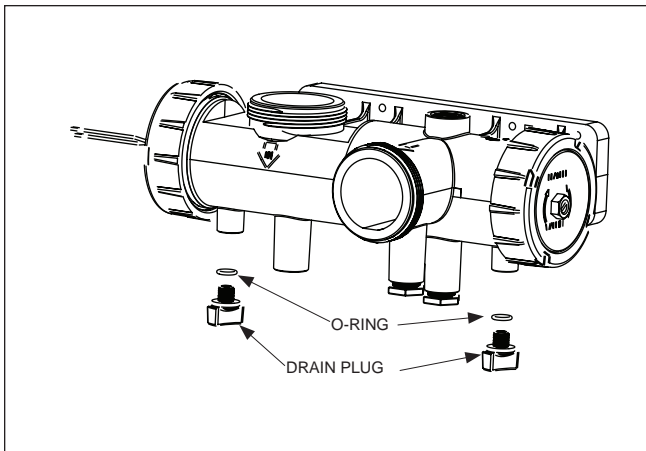

Figure 31. Draining the Heater
6. Locate the bypass adjustment screw on the right-hand side of the header (see Figure 31). Loosen the nut so that the screw can be adjusted. A slight water leak past the nut may be expected. Turn the screw counterclockwise to decrease the temperature rise, and clockwise to increase the temperature rise as needed to achieve the ranges in Table 7. After the adjustment, tighten the nut so that no leaks occur.
4. Remove the drain plugs from both the inlet/outlet header and the return header (see Figure 31 and Sections 11.3 and 11.4, Exploded Views), and completely drain the heater before the first frost.